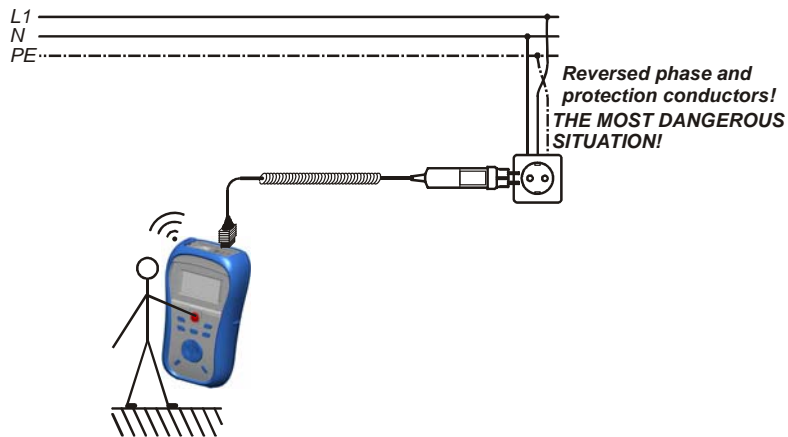

Figure 5.41: Reversed L and PE conductors (application of plug cable)
- ❑ **Connect** test leads to the item to be tested (see figures 5.41 and 5.42).